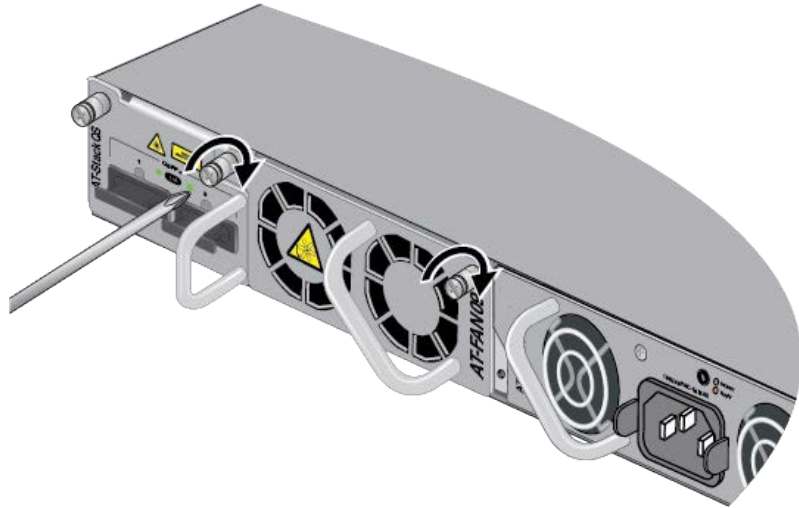

Figure 50. Tightening the Two Captive Screws on the AT-FAN09 Module
12. Tighten the two captive screws on the AT-FAN09 Module to secure it to the switch. Refer to Figure 50.